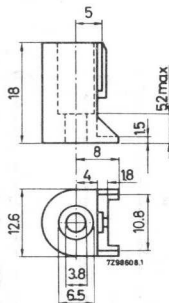

Fig.3a. Thermoplastic mounting bracket 4332 026 11110
- thermoplastic bracket for rail or panel mounting (catalogue number 4332 026 11110), Fig.3a